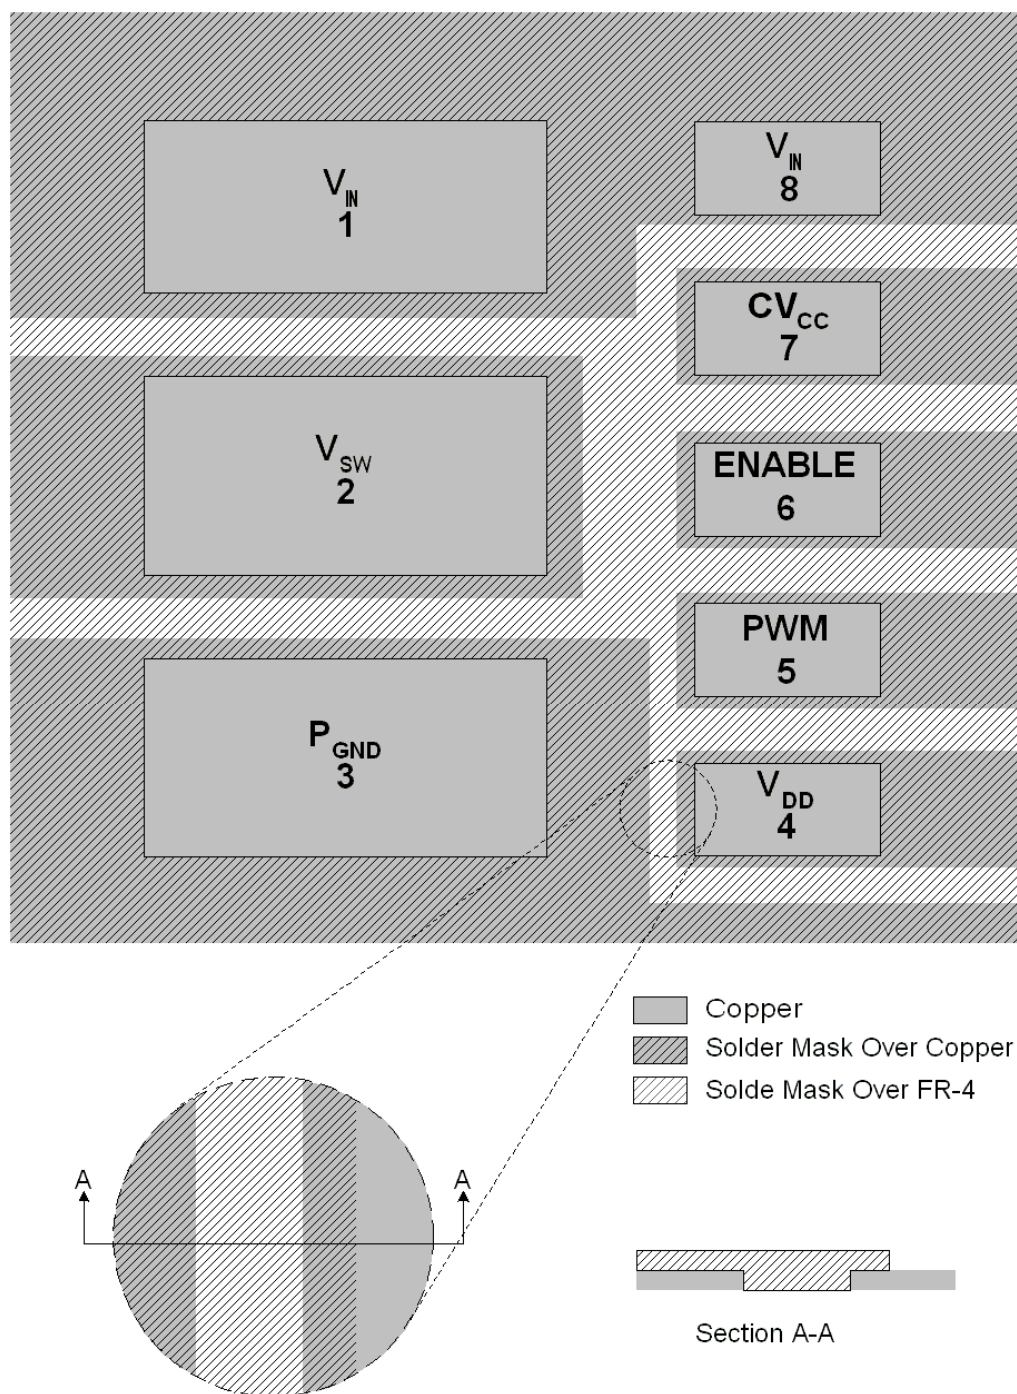

Figure 12 Top copper and Solder-mask layer of PCB layout
- All pads on the iP2005A footprint design need to be Solder-mask defined (see Figure 12). Also refer to International Rectifier application notes AN1028 and AN1029 for further footprint design guidance.